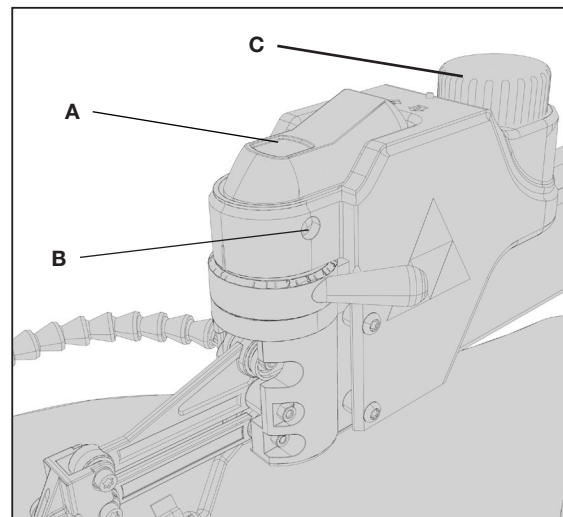

FIG. 8
To turn the scroll saw on, press the front of the switch (A) Fig. 8. The saw locks on automatically. To turn the tool off, press the back of the switch (A). A hole (B) is provided in the switch for insertion of a padlock to lock the saw off (Figure 8).
IMPORTANT: When the machine is not in use, the switch should be locked in the "OFF" position to prevent unauthorized use, using a padlock with a 3/16" (4.76 mm) diameter shackle through hole (B) Fig. 8.
Your scroll saw features a variable speed control, from 400 to 1,750 strokes per minute. To operate the variable speed feature, turn the speed control knob (C) Fig. 8 with the saw running.